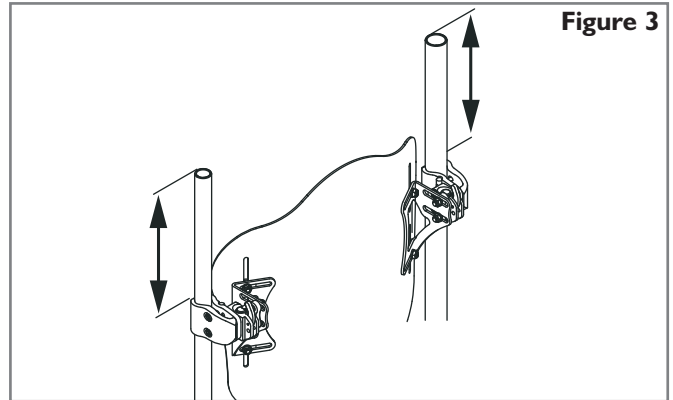
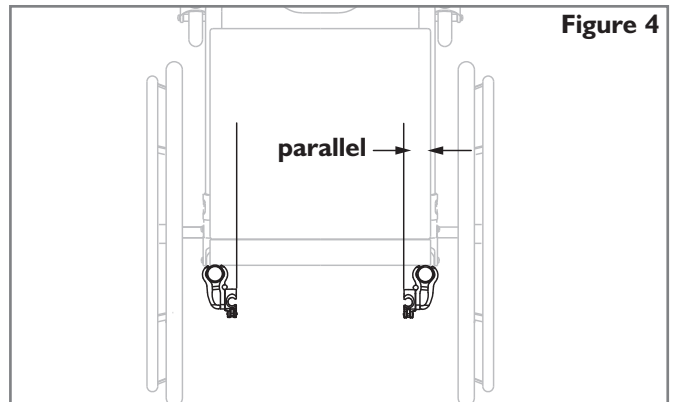

Figure 3
Figure 4
Hardware Installation Instructions (Figs. 3, 4, 5)
2. Visually determine the desired location of the receivers on the wheelchair's back canes. The mounting hardware should be at approximately equal heights on each back post (Fig. 3) and parallel to the seat frame (Fig. 4). Higher locations on the back canes are generally better.